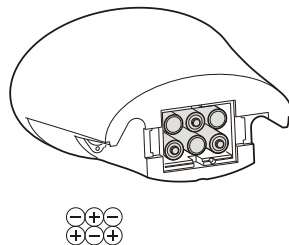

Fig7
2. Insert the 6 AA batteries into the compartment as indicated by the polarity symbols marked inside the compartment. (See fig.7)